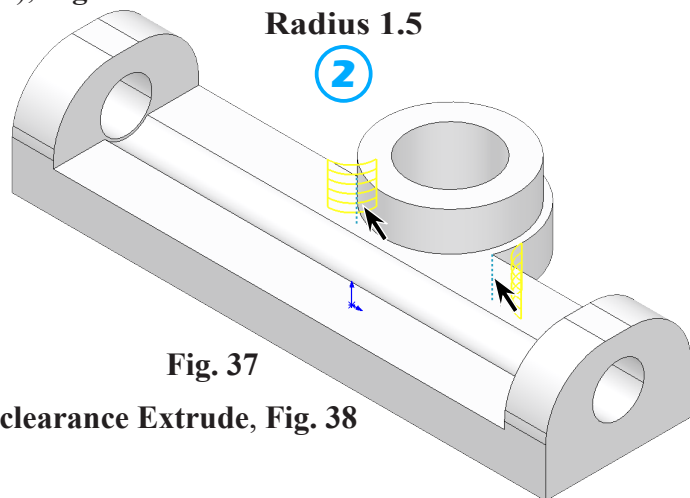

Fig. 37
② **Radius**  1.5
click both edges of pin flange (2), Fig. 37